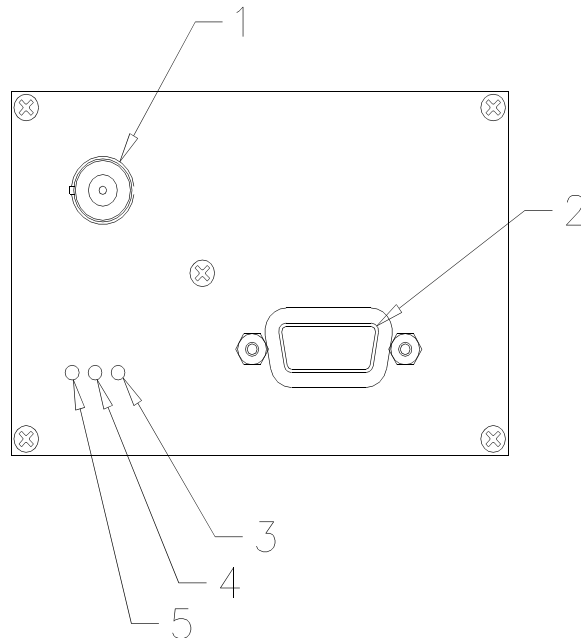

Figure 14.3.3. Johnson Data RF Modem Controls and Indicators
14.3.2.2A **RF Modems.** RF data modems provide communications between the SCA and DCP cabinets. Only the Johnson Data rf modem (62828-40506-X) has controls and indicators as shown on figure 14.3.3 and described in table 14.3.3.